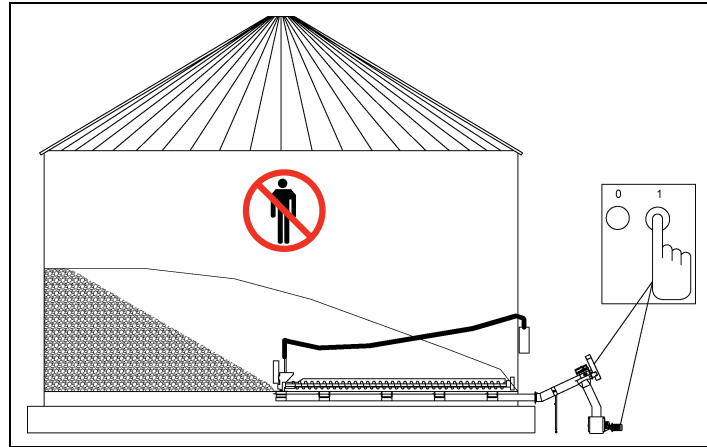

Figure 6I
9. Start unload system. (See Figure 6I.)